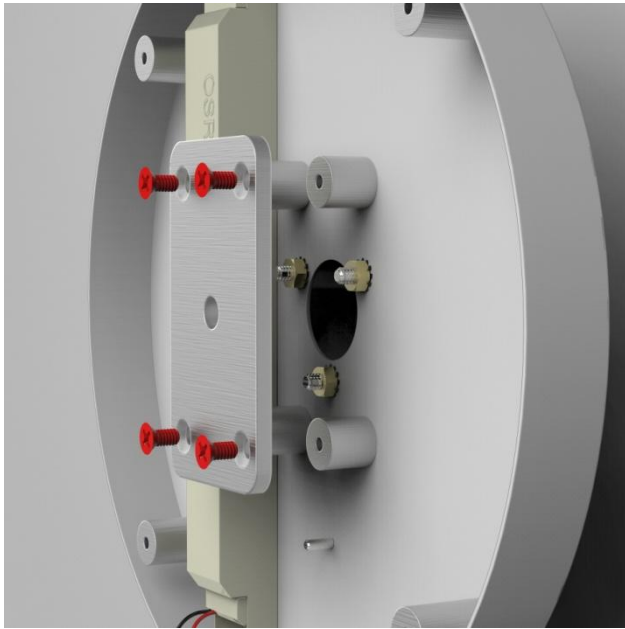

Figure 9
- Align rectangular plate over standoffs on electrical pan (Figure 9)